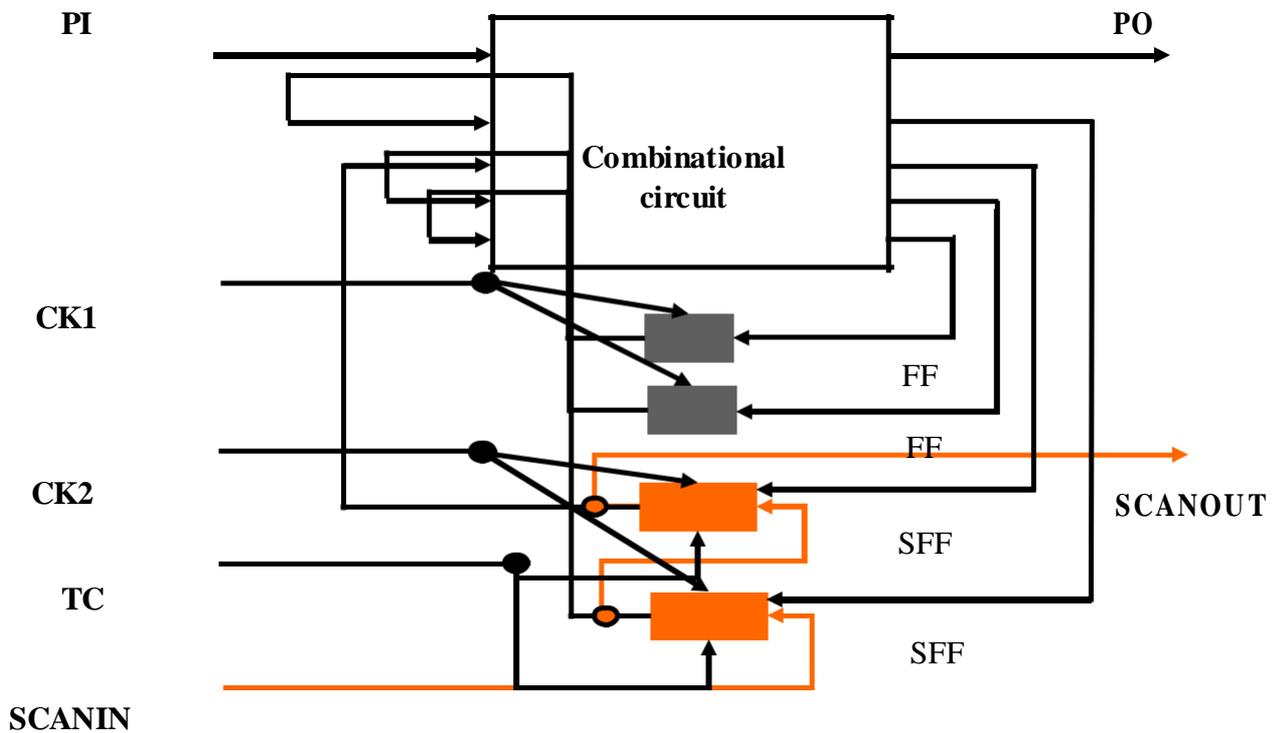

Fig. 39.9 Design using partial scan structure
- Figure 39.9 shows a design using partial scan architecture [1].